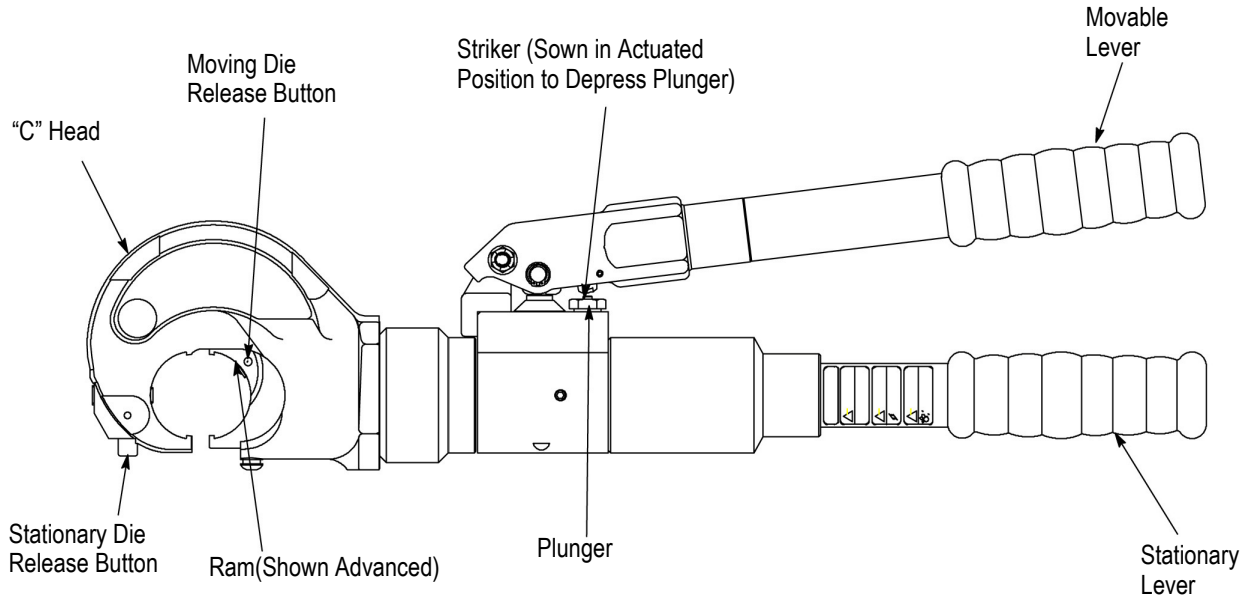

Figure 1
Hydraulic Hand Crimping Tool 1490748-1 (Figure 1) is designed for crimping the terminals and splices in Figure 2. Read these instructions thoroughly before using the hand tool.
See Figure 1.
6. Turn movable lever (to actuate striker), and compress levers to depress plunger. Movable die will now retract. See Figure 1.